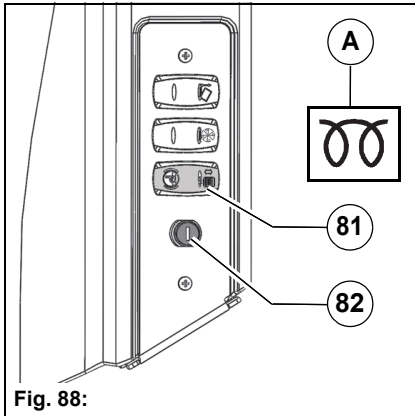

Fig. 88:
- Position 1: Preheat the engine until the control light **Fig. 88-A** goes out.